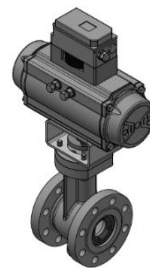

Fig. 1: Type 82.7-02/AT (BR31a)
- pneumatic piston actuator Type AT / BR31a → control valve Type 82.7-02/AT and 82.7-02/BR31a (see fig. 1)